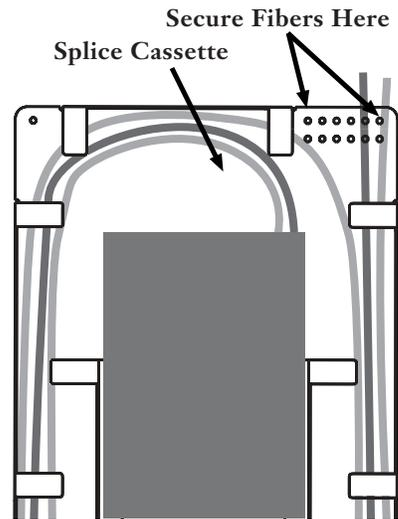

Figure 17
8.3 Remove splice cassette and secure fiber or tubing using cable ties (Figure 17). Vinyl tape should be placed on buffer tubes or spiral wrap where cable ties are secured. A foam strip or slit grommet should be used for securing ribbon fibers. **DO NOT OVERTIGHTEN CABLE TIES.**